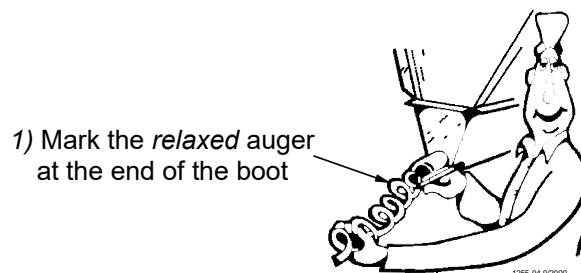

Figure 42. Measure the Auger from the relaxed position
10. Pull the auger at the boot end until it begins stretching. Then let it relax. In the *relaxed* position, mark the auger at the end of the boot. See **Figure 42**.